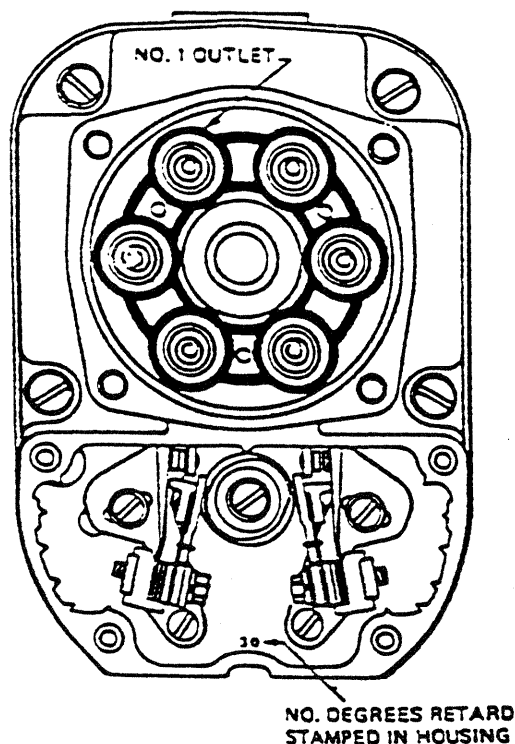

Figure 202. Cam End View of Dual Contact Assembly Magneto
- B. Some S-20 Series four and six cylinder magnetos incorporate impulse couplings. The purpose of the impulse coupling is to: (1) rotate the magnet between impulse trips faster than engine cranking speed, thus generating a better spark for starting the engine, (2) automatically retard the spark during engine cranking, and (3) act as a drive coupling for the magneto.
- C. The S-200 Dual Contact Assembly Magnetos incorporate a retard contact assembly. (See Figure 202.) This contact assembly is actuated by the same cam as the main contact assembly. It is positioned so that its points open a predetermined number of degrees after the main contact points open. A battery-operated starting vibrator used with this magneto provides electrical energy for starting, regardless of engine cranking speed. The retard ignition is in the form of a shower of sparks instead of a single spark, as obtained from an impulse coupling.